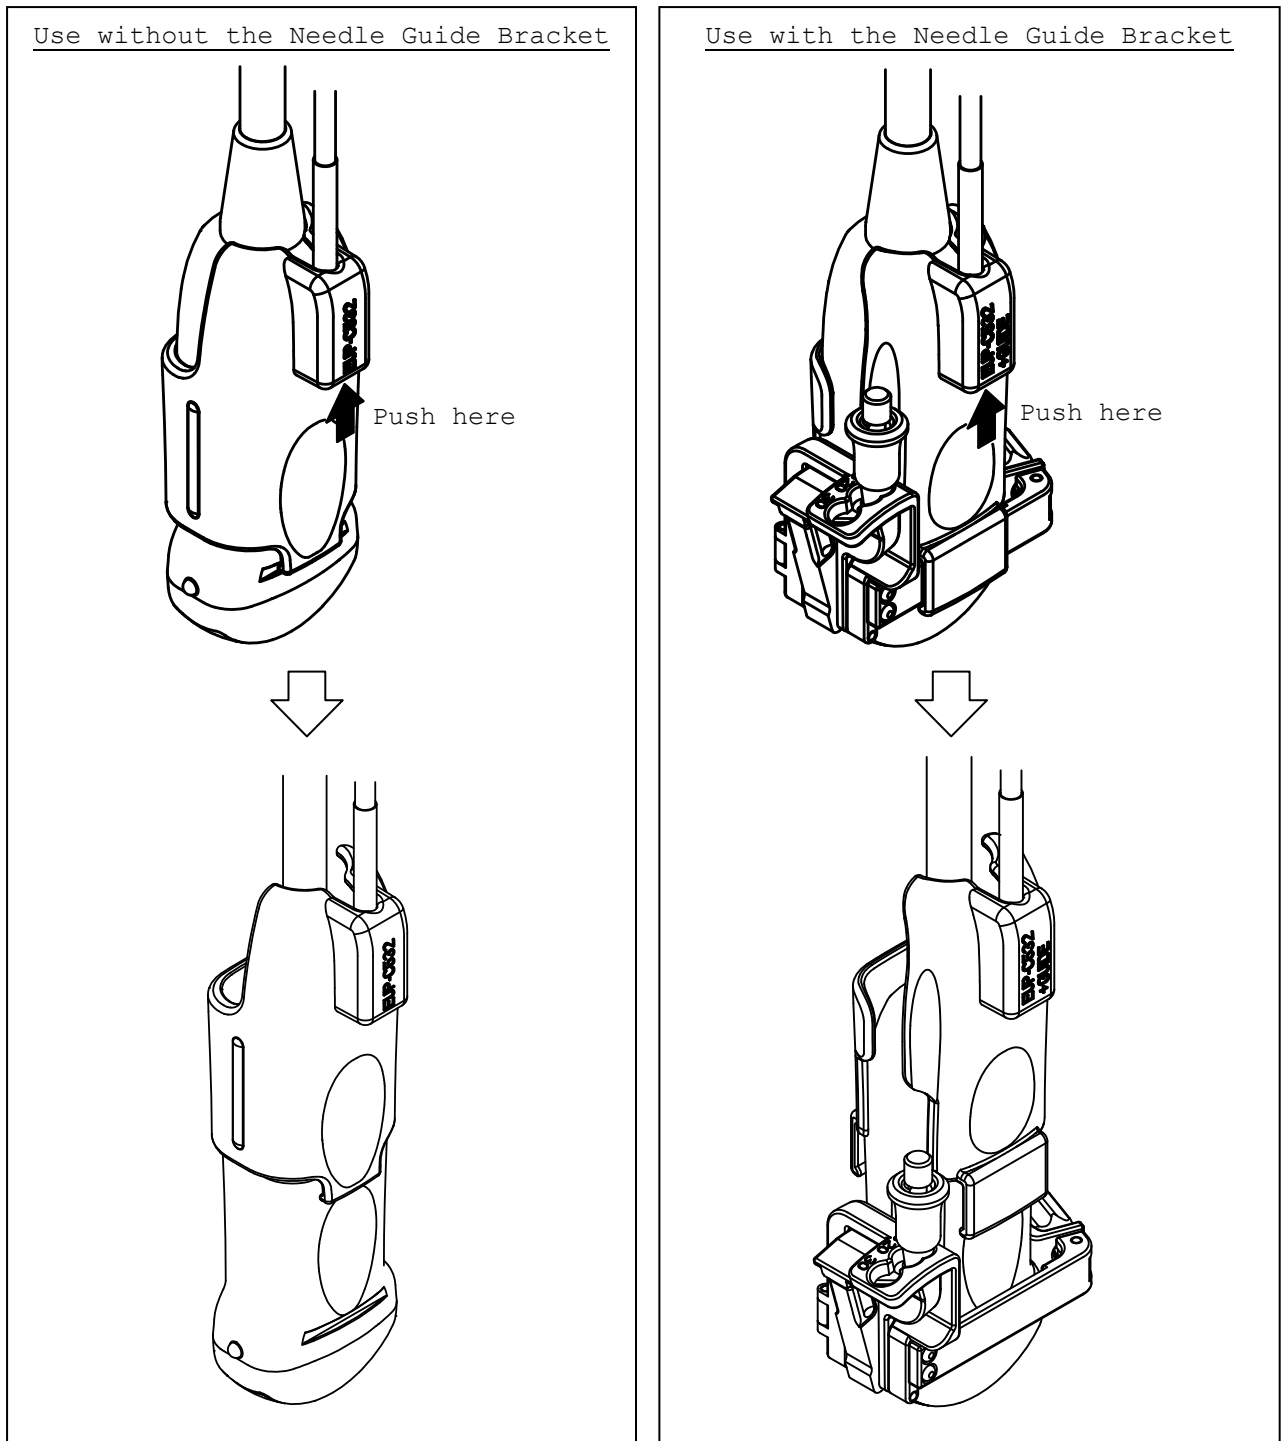

Fig.13 How to release the Magnetic sensor attachment
- a) Push the Magnetic sensor attachment and release it from the probe as shown in Fig.13